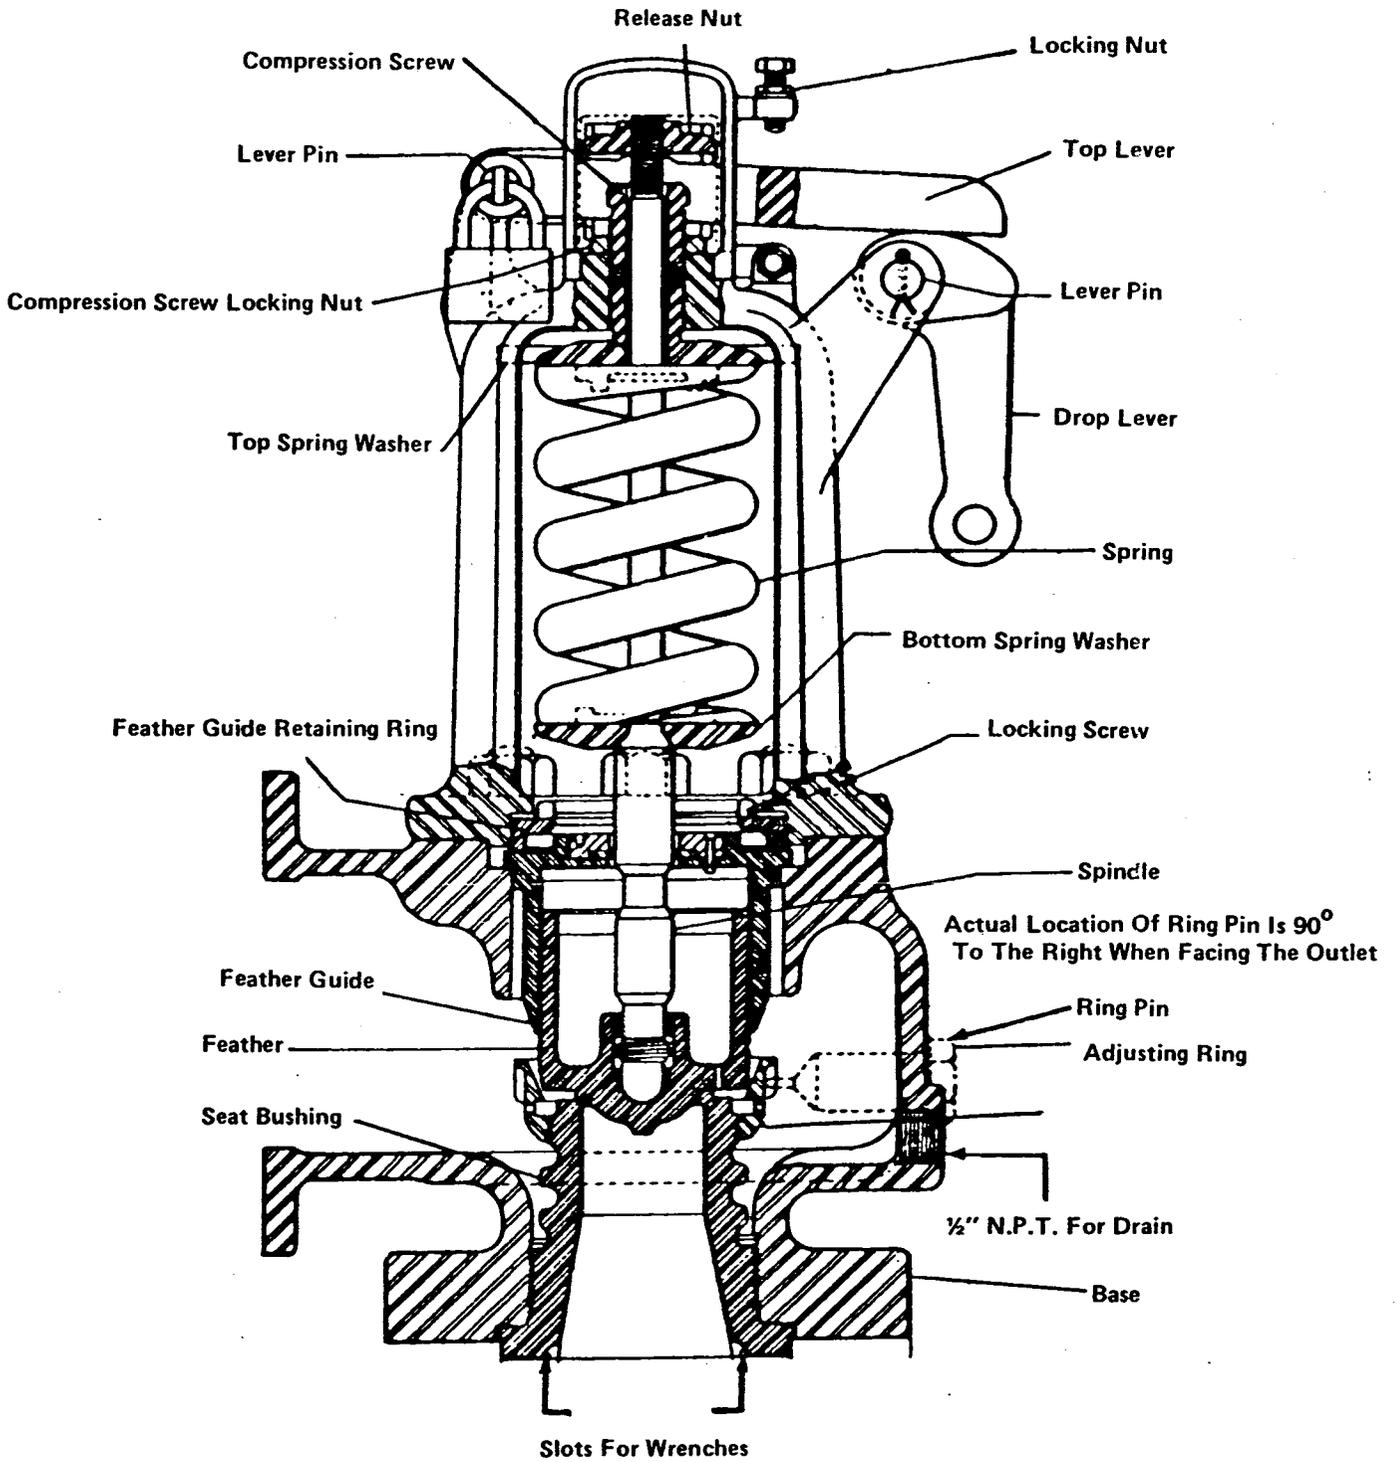

FIGURE 2-24. HUDDLING CHAMBER SAFETY VALVE
a. Types of Safety Valves. One common type of safety valve is the huddling chamber safety valve illustrated in figure 2-24. This safety valve opens rapidly because of the additional area on which steam pressure is exerted as soon as the valve starts to lift from the seat, and the reaction of the steam on the seat. This second action resembles the action which causes a free air, water, or steam hose to whip around when the discharge velocity is high. The area between the valve seat and the adjusting ring is called the huddling chamber. As seen in figure 2-24, the clearance between the inside of the adjusting ring and the feather is comparatively small. The boiler pressure is exerted on the area of the feather which is equal to the inside area of the seat bushing. As soon as the seat is slightly displaced, steam starts to flow through the valve because of the excessive boiler pressure. The steam cannot escape between the feather and the adjusting ring as fast as it is flowing through the seat. As a result, pressure builds up under the feather. This in turn, increases the force available for pushing the valve off the seat. The flow of steam is turned by the feather, and this also exerts a force to open the valve. These two forces cause the valve to pop open. Because of the larger area subjected to the steam pressure and the reactive force of the flowing steam, the valve does not close until the pressure drops below that which caused it to open. The difference between the set or popping pressure and the closing pressure is called the blowdown. Jet flow and nozzle reaction safety valves are other common types. Power-actuated pressure relief valves are also allowed by ASME Code but are not used in Army installations.